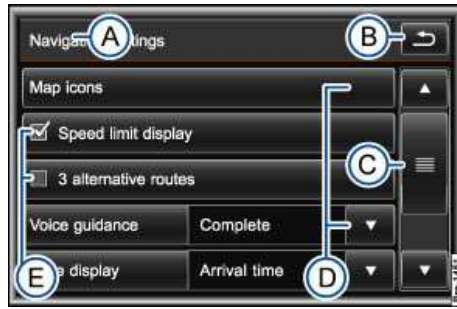

Fig. 133 Navigation settings.
The selected setting is displayed in an “option window” behind some function keys. The option window is indicated by an arrow ▼ ⇒ fig. 133 (D).
If there are more items available in a list view than can be displayed on the screen, a scroll bar is displayed on the right of the screen ⇒ fig. 133.
- *Browsing lists page-by-page:* briefly press the screen above or below the scroll marker ⇒ fig. 133 (C). **OR:** Briefly press the  or  function keys ⇒ fig. 134.